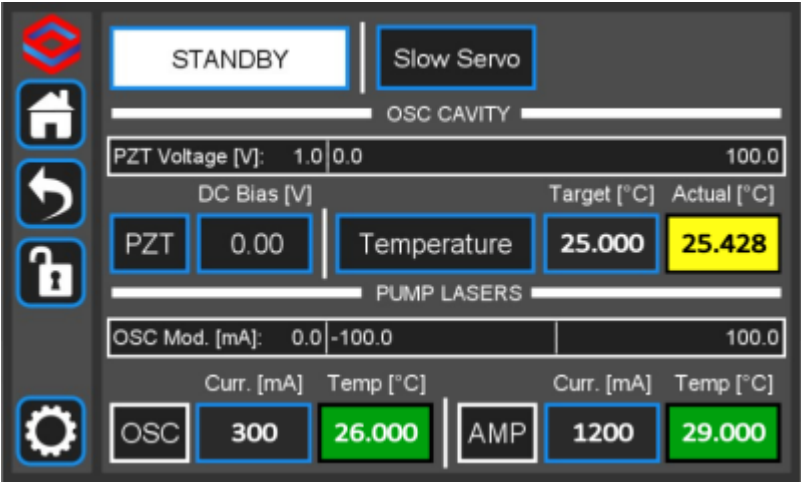
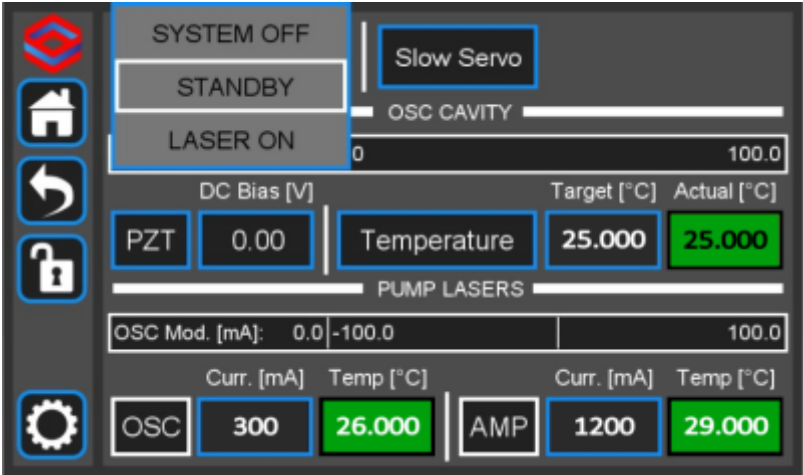
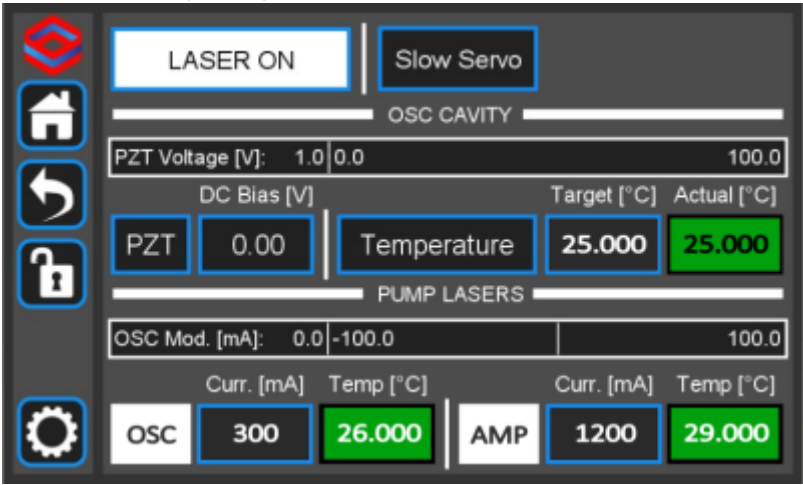

Fig. 5: The FFC-100 GUI: in Standby
Fig. 6: The FFC-100 GUI: Standby to System On
Fig. 7: System On
2. Once the temperature servos have stabilized and “Standby” has stopped blinking, touch the “Standby” drop-down menu (figure 5) and select “Laser On” (figure 6). After a 5 second safety delay where the Laser On button blinks, the FFC should commence lasing and the Laser On button should turn solid white (figure 7).